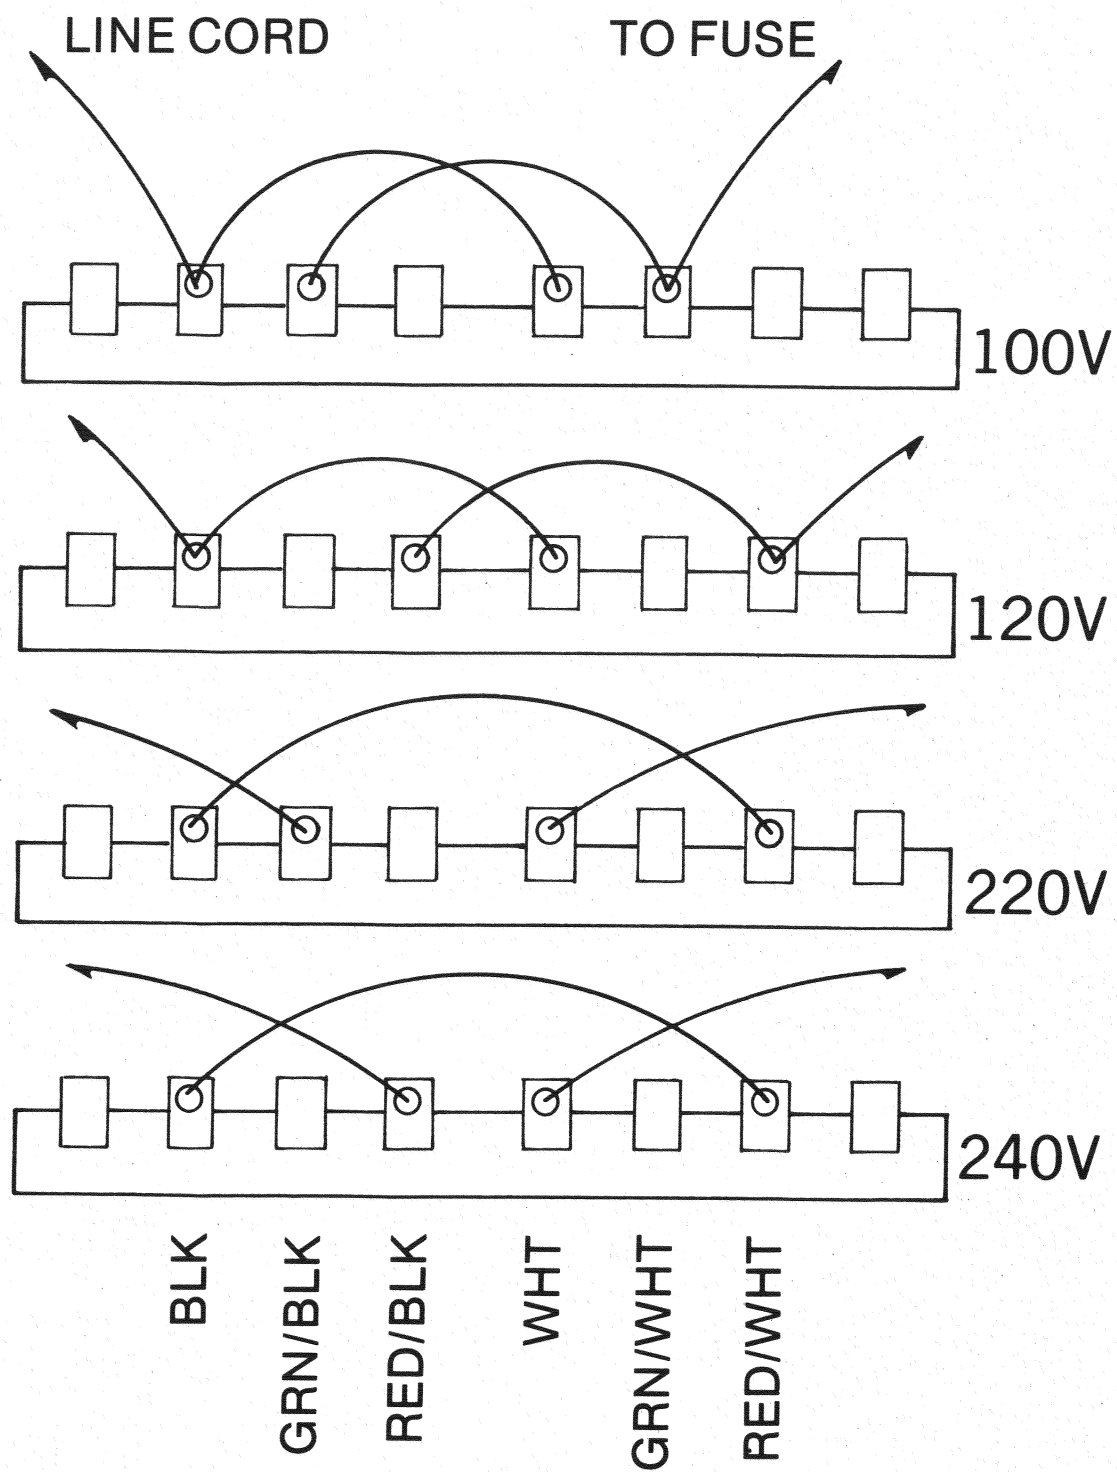

Fig. 7.6 Voltage Conversion Chart
3. Make the appropriate change in jumpers for the required operating voltage, see Fig. 7.6.